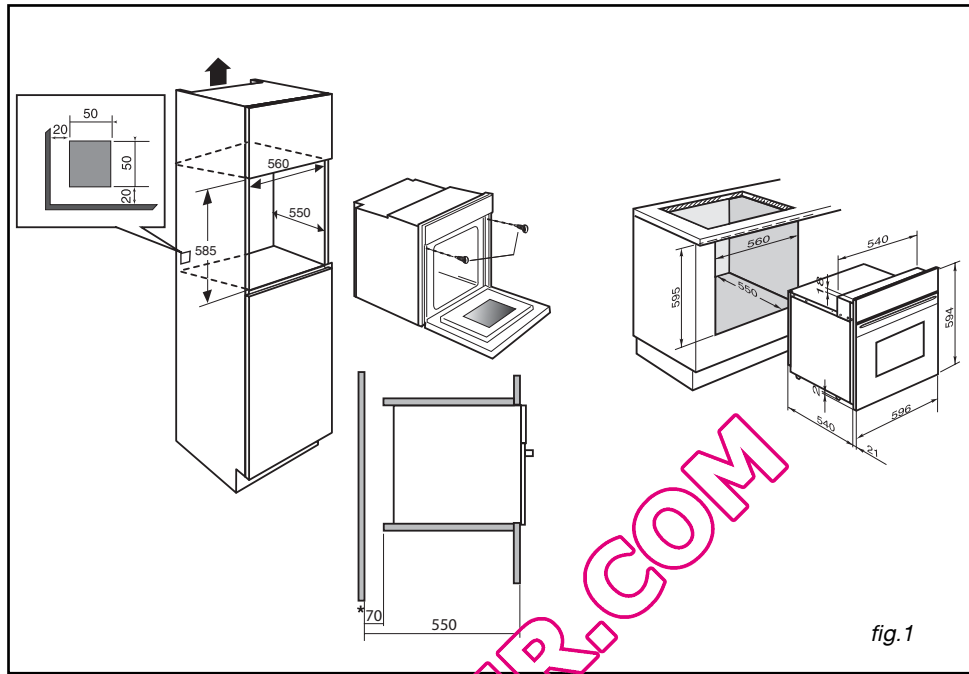

fig. 1
- For greater stability, attach the oven in the cabinet with two screws through the holes provided for this purpose on either side of the front inner panel (fig.1).
- **Safety grid with handle (fig.1)**